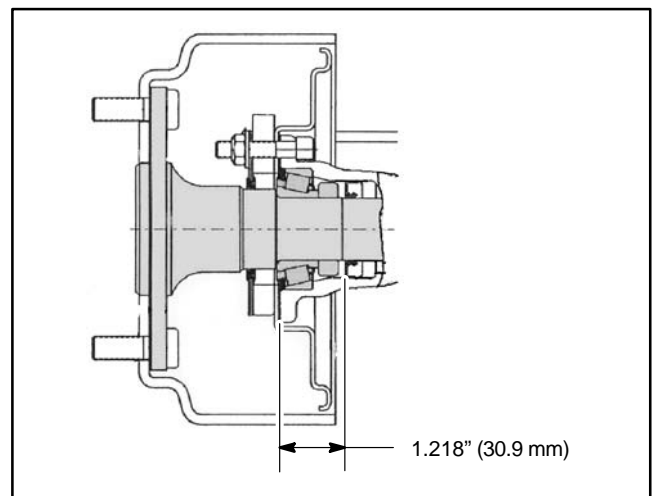

Figure 15
4. Prepare a new inner shaft seal for assembly. Put a light coat of No. 1 Permatex or equivalent on the outside diameter (surface that contacts the axle housing), and a thin film of oil on the inside diameter (surface that contacts the axle shaft). Install the new seal to a depth of 1.218 in. (30.9 mm) into the housing (Fig. 15).